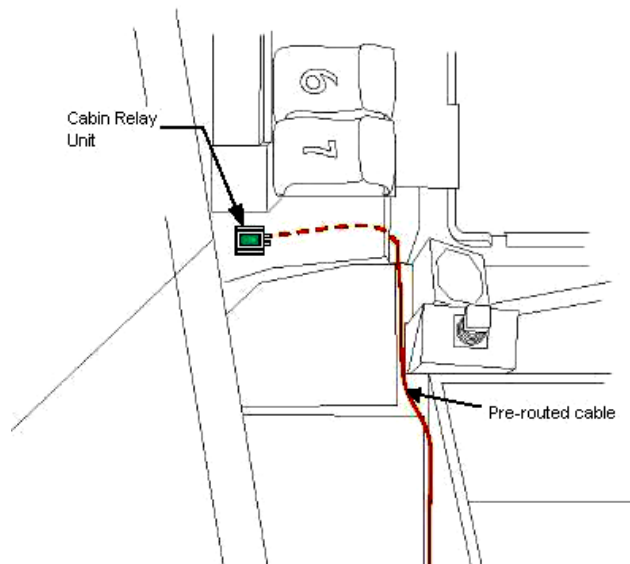

Figure 7-6.- Aft STBD location.
Remove Cabin Relay Units (2) from aft cabin (see figs 7-6 and 7-7)